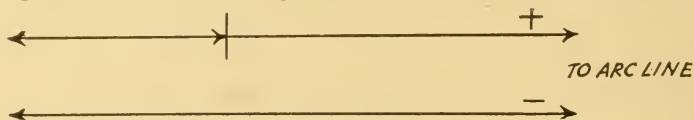

FIGURE 74D
(47) Fig. 74D is a symbolic illustration of the circuit of a single unit, half-wave rectifier of the stack or disc type. The arrowhead and cross line in the upper line is the conventional symbol for a stack or disc rectifier. So long as the wire on the arrowhead side is positive, the unit will pass current. When, however, the a. c. reverses its direction and that wire becomes negative, current can no longer flow, as will be explained. Fig. 74E is
an assembly of units in the form put out by one manufacturer. Its action is symbolized in Fig. 74D. Current will flow through this unit only during each alternation or half cycle. It is therefore a half-wave rectifier.